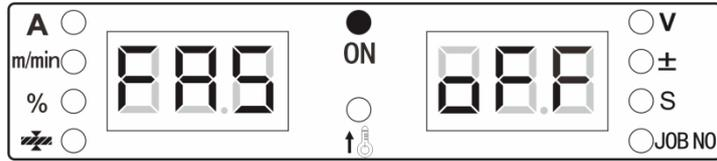

Fig. 4-5 FA5 display interface
1. Enter the internal menu and find **FA5** by turning the knob. The digital meter is as displayed in Fig.4-5.